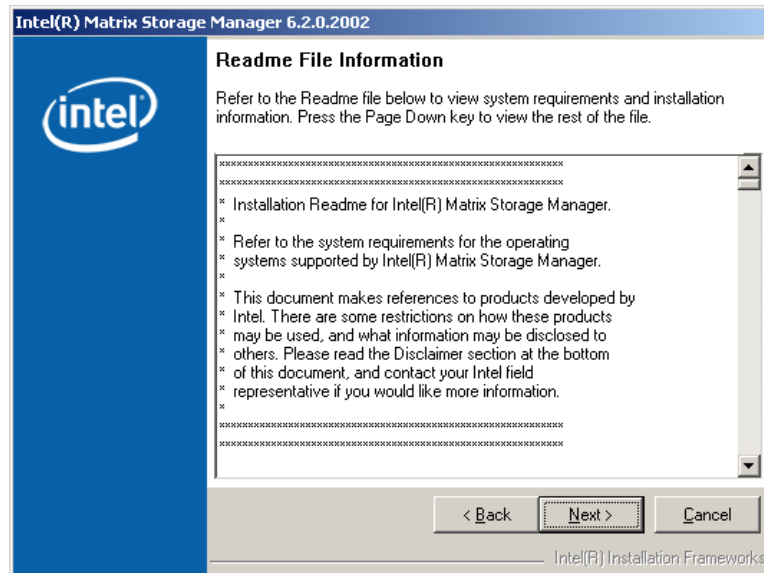

Figure 7-38: Matrix Storage Manager Readme File
Step 10: Read the license agreement. To accept the terms and conditions stipulated in the license agreement shown, click **YES** and the Readme information file shown in **Figure 7-38** appears.